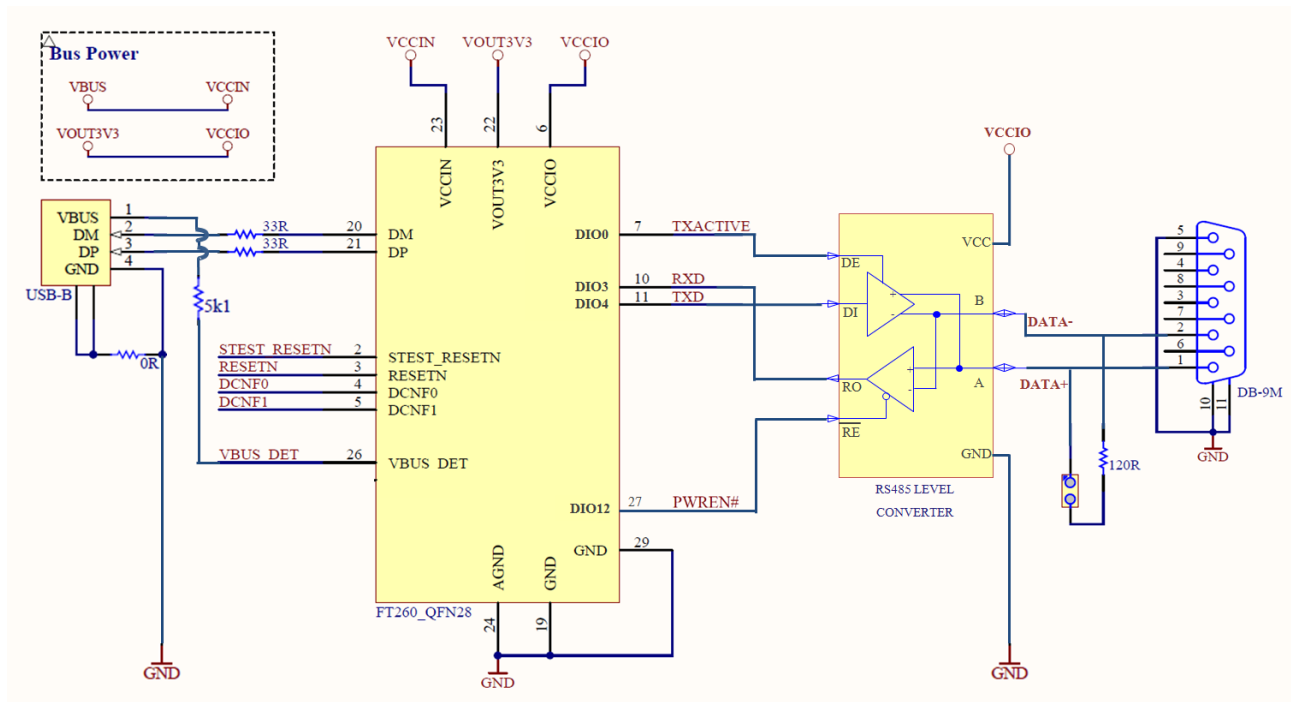

Figure 8-3 Application Example 3: USB to RS485 Converter
An example of using the FT260 as a USB to RS485 converter is shown in Figure 8-3. In this application, a TTL to RS485 level converter IC is used on the serial UART interface of the FT260 to convert the TTL levels of the FT260 to RS485 levels.
In this example, the data transmitted by the FT260 is also present on the receive path of the converter device. This is a common feature of RS485 and requires the application software to remove the transmitted data from the received data stream. With the FT260, it is possible to do this entirely in hardware by modifying the example shown in Figure 8.3 by logically OR-ing the FT260 TX_ACTIVE and the receiver output (RO) of converter device then connecting the output of the OR gate to the RXD of FT260.